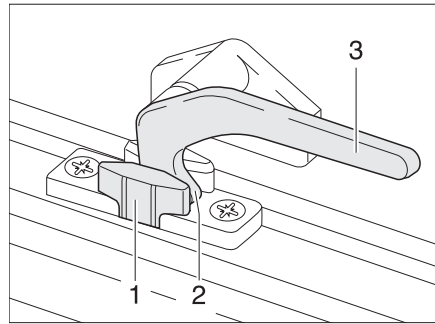
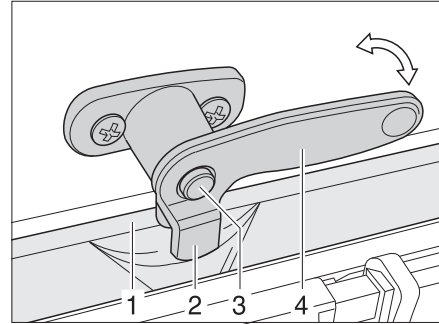

Fig. 67 Catch lever in the "Continuous ventilation" position
Fig. 68 Catch lever with safety knob in "Continuous ventilation" position
- "Continuous ventilation" (Fig. 67)
- If it exists, press the safety knob (Fig. 68,3) down and hold it.
- Turn the catch lever (Fig. 67,3 or Fig. 68,4) a quarter turn towards the centre of the window.
- Return the catch lever to its initial position. In the process the locking catch (Fig. 67,2 or Fig. 68,2) is retracted into the recess of the window catch (Fig. 67,1 or Fig. 68,1).